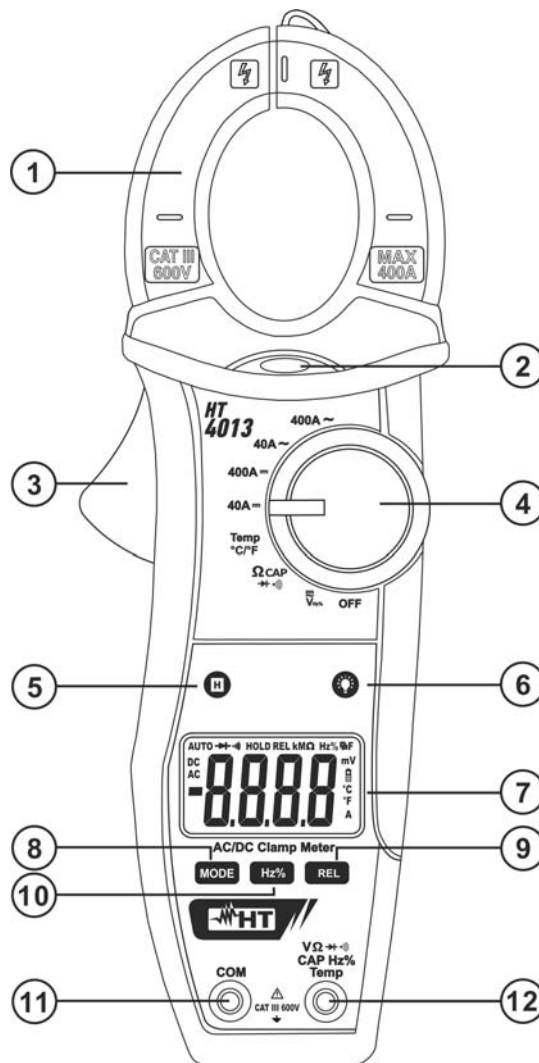

Fig. 1: Instrument description
1. Switch on the instrument in any position of selector, near it an AC source and look for the red LED at the clamp's base (see Fig. 1 – Part 2) to turn on. This indicates that the instrument has detected the AC source's presence